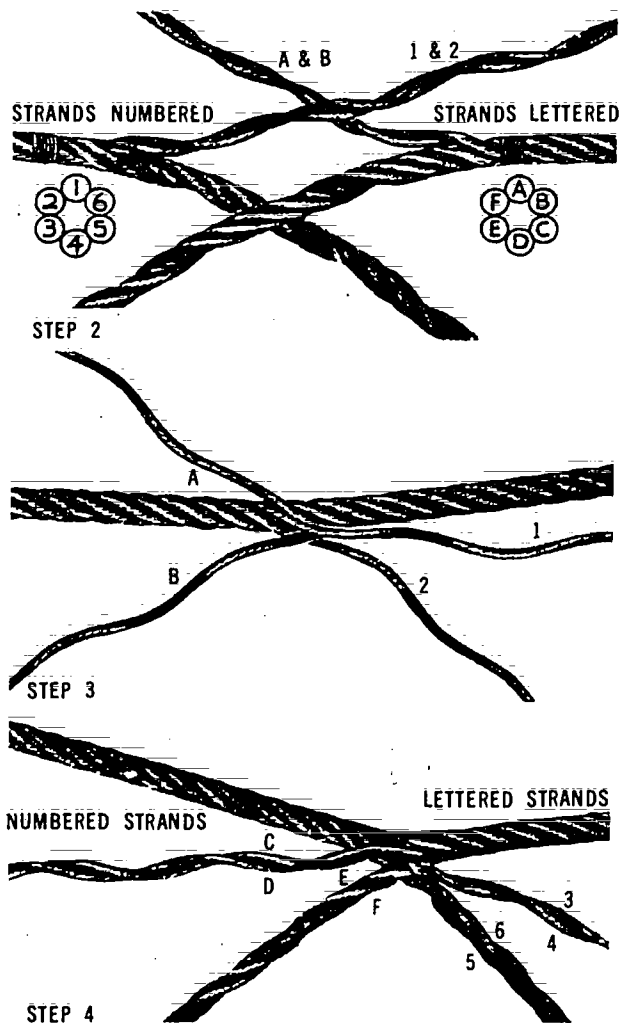

Figure 7-51. Splicing Wire Rope
- Step 2. Unlay two strands from each piece to the marks and interlay the pairs as shown in Figure 7-51. Pull the ropes together snugly at the marry.
place. Then take Strand 1 and unlay it further, back to the 25' mark and lay Strand A in its place (Figure 7-51).
Step 4. Unlay Strands C and D back to the 15' mark (in the opposite rope) and lay Strands 3 and 4 in their place. Then take Strand C and unlay it further, back to the 25' mark and lay Strand 3 in its place (Figure 7-51).